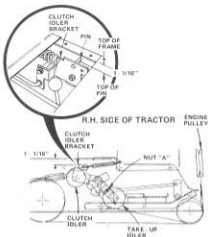

FIGURE 28
- Check position of Clutch Idler Bracket (Fig. 28).
- Repeat steps b thru e until a 1 - 1/16" dimension is obtained between top of Pin and top of Frame as shown in Fig. 28 - Inset.
- Reinstall Shift Cover Plate and (4) Screws removed in step a.